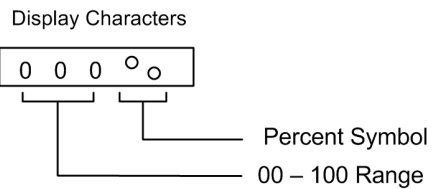

Figure 20: 4–20 mA or 0–10 VDC Output Display Percentages
3.	Press the ▼ DOWN ARROW key and the display will appear, as shown in Figure 20.